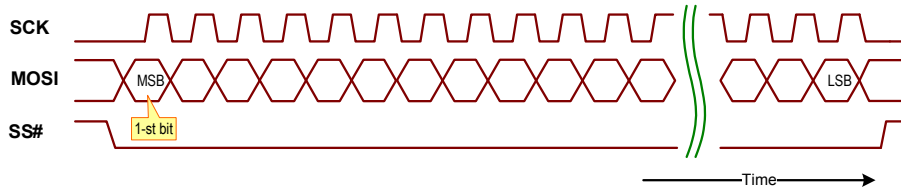
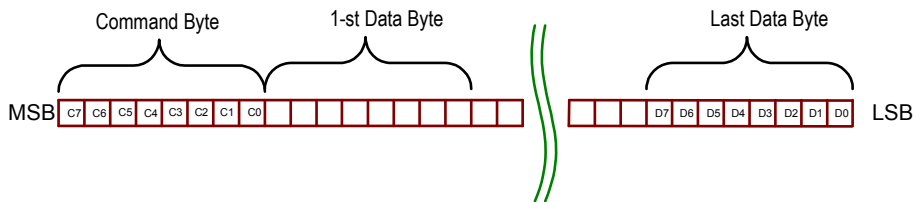

Figure 14: AVM SPI writing cycle diagram
Figure 15: Command and data bytes
AVM SPI commands consist of one command byte $C[7:0]$ following by N data bytes. Number of data bytes (N) depends on the particular command. Data on MOSI signal line are latched on rising edge of SCK signal as shown on figure 14. MSB (Most Significant Bit) is loaded first, LSB (Least Significant Bit) – last. The first is the command byte $C[7:0]$ all other bytes are data (fig. 15). The command byte works as the address for multiplexer implemented in CPLD and defines the destination where to transfer following data – to one of the SPI channels or to one of the static registers, and the type of operation – writing or reading.